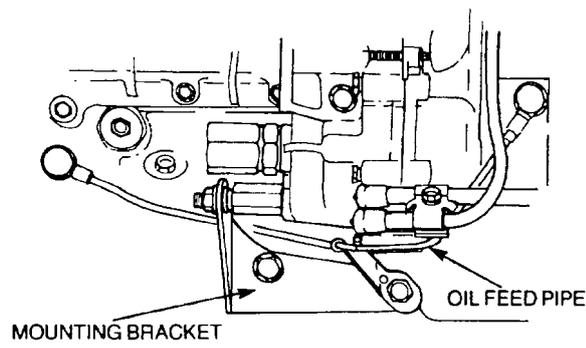

Figure 13 Removing the Injection Pump Rear Mounting Bracket
- k. Remove the bolts securing the mounting bracket to the engine and remove both the mounting bracket and the oil feed pipe from the engine (Figure 13).